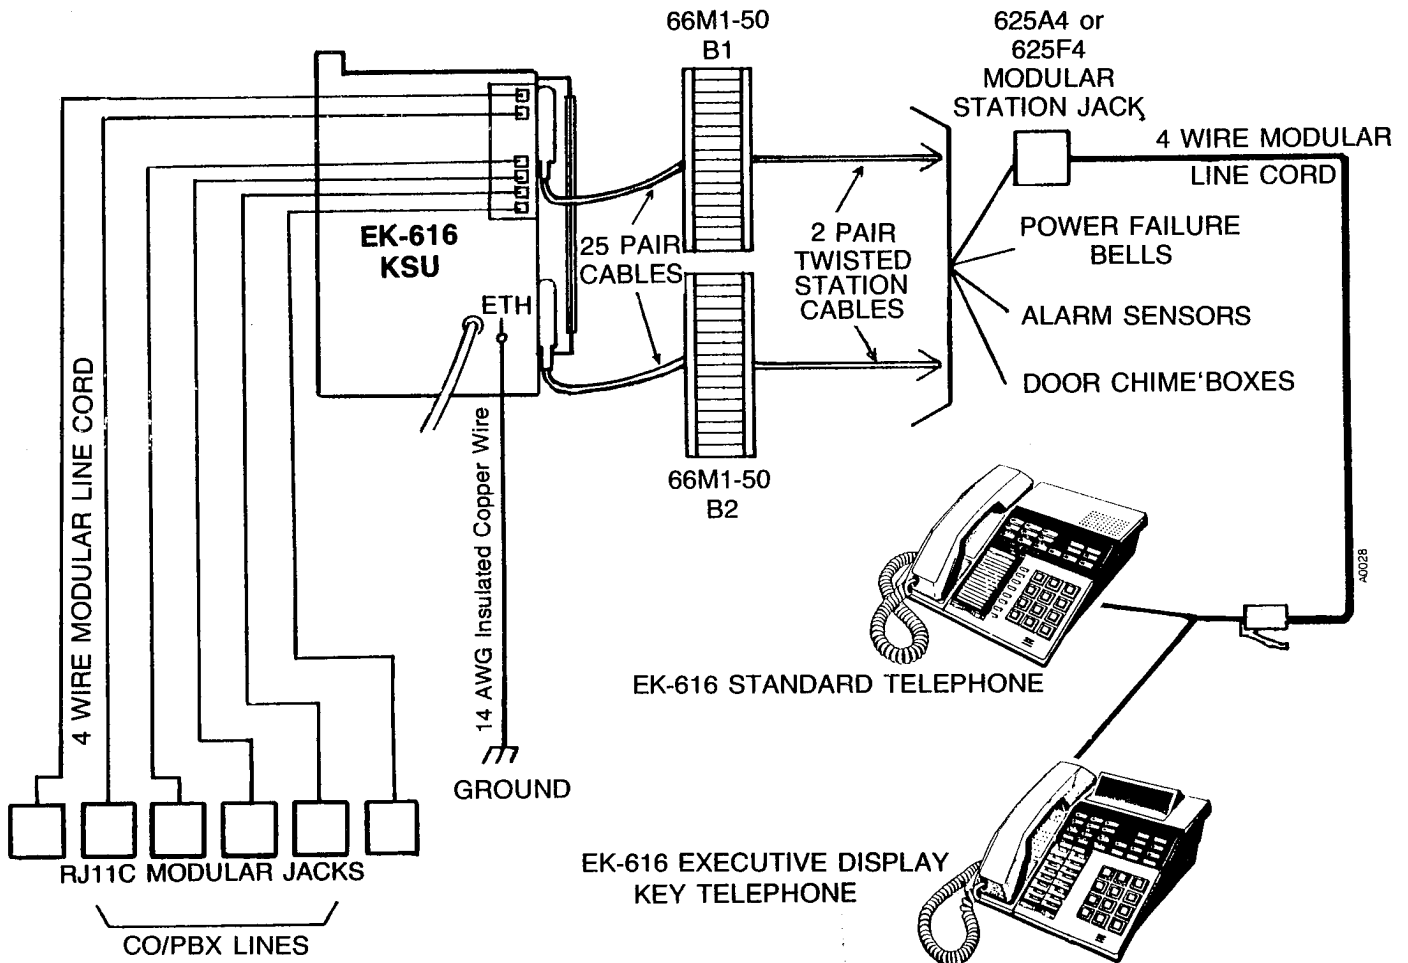

Figure 3-1 STATION EQUIPMENT, EK-616
**4.01** Use the following guide to determine overall equipment requirements for installation ( Figure 3-1 ). Complete Table 3-4 using the OCWs ( Tables 3-1, 3-2, and 3-3 ).